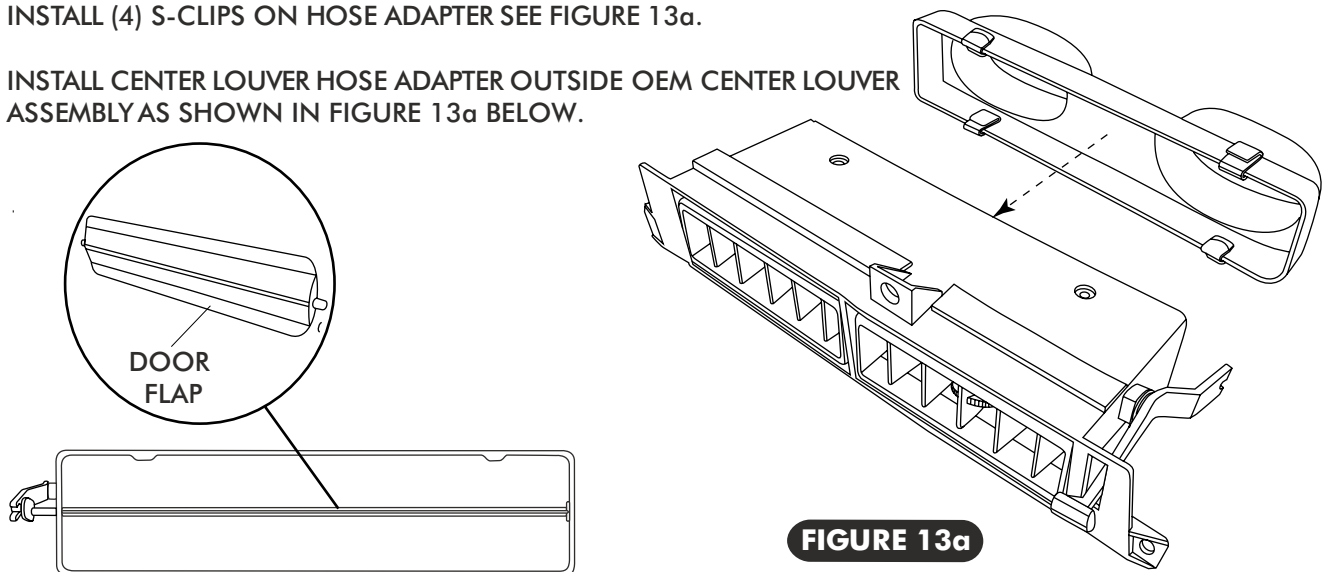

FIGURE 13a
- REMOVE THE CENTER LOUVER DOOR FLAP. SEE FIGURE 13a
- INSTALL (4) S-CLIPS ON HOSE ADAPTER SEE FIGURE 13a.
- INSTALL CENTER LOUVER HOSE ADAPTER OUTSIDE OEM CENTER LOUVER ASSEMBLY AS SHOWN IN FIGURE 13a BELOW.